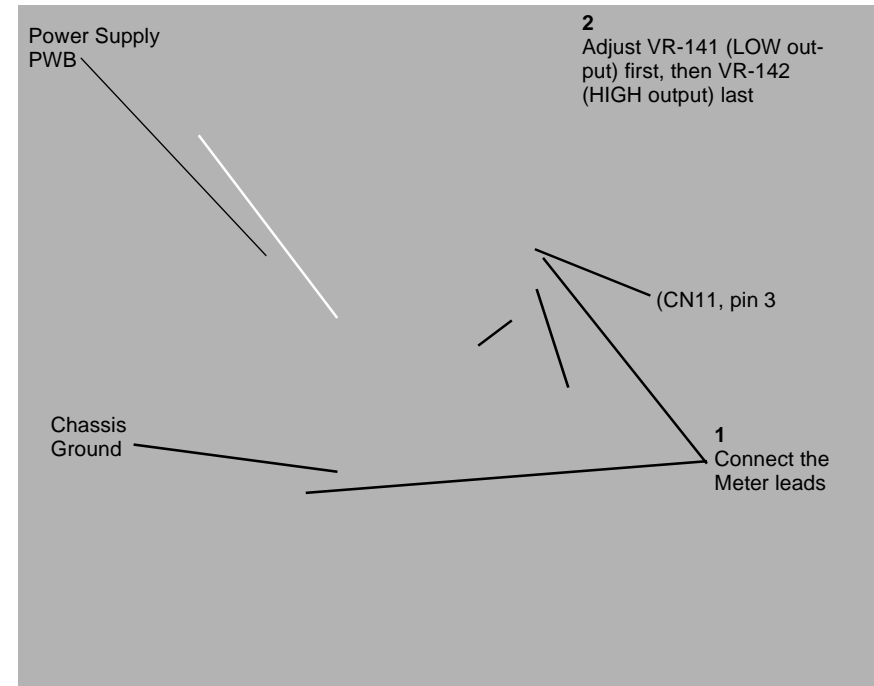

Figure 1 Adjusting the Grid Bias Voltage
2. (Figure 1): Connect the positive lead to connector pin CN11-3